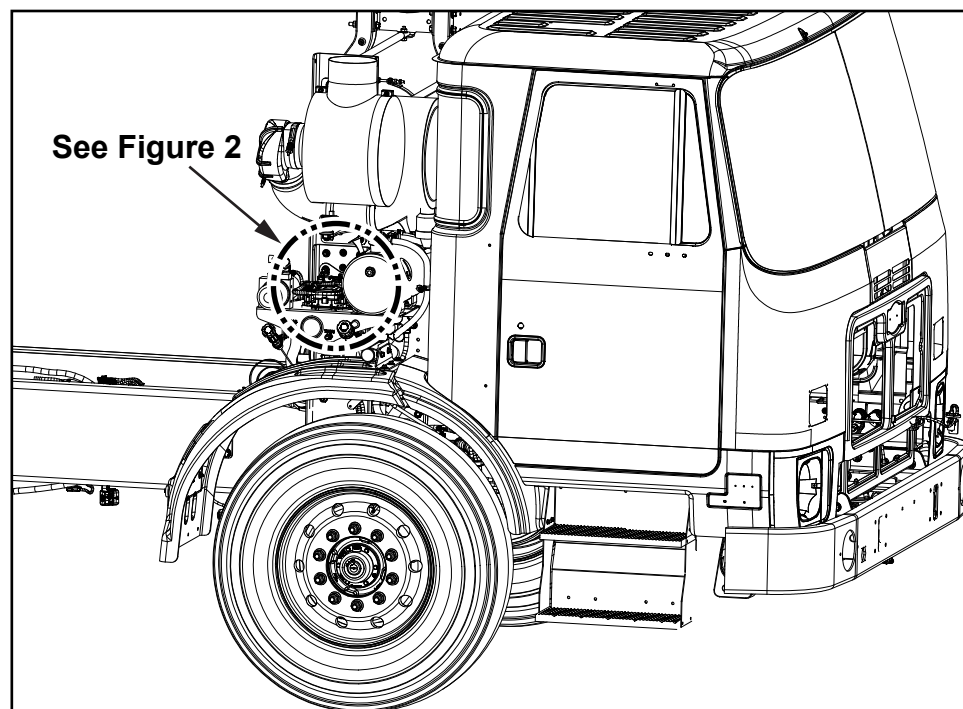

Figure 1
2. Locate the external fuse box on the outboard side of the right upright (see Figure 1).